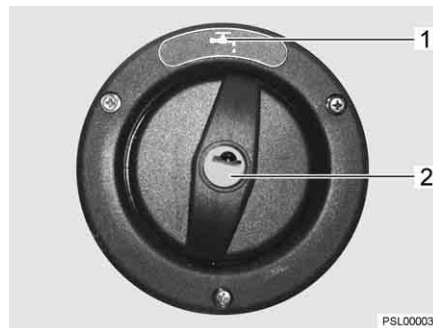

Fig. 195 Cap for the drinking water filler neck
The drinking water filler neck is indicated by the symbol "☞" (Fig. 195,1). The cap is open and closed using the key for the external flap locks.
- Insert key into locking cylinder (Fig. 195,2) and turn a quarter turn in an anticlockwise direction.